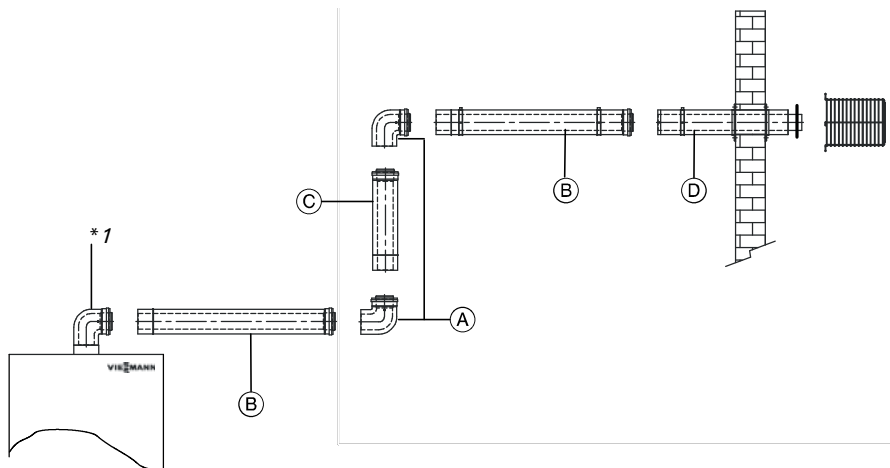

Fig. 12
- For maximum equivalent vent length on all models see tables 7. and 8., and Figs. 12 (left), 13 and 14 on the following pages.